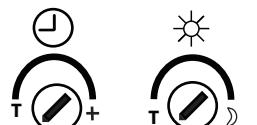

Fig. 5
1. Activate test mode by turning both the light control and light level knobs (with arrow slots) counter clockwise toward "T" until they stop (Fig. 5.).